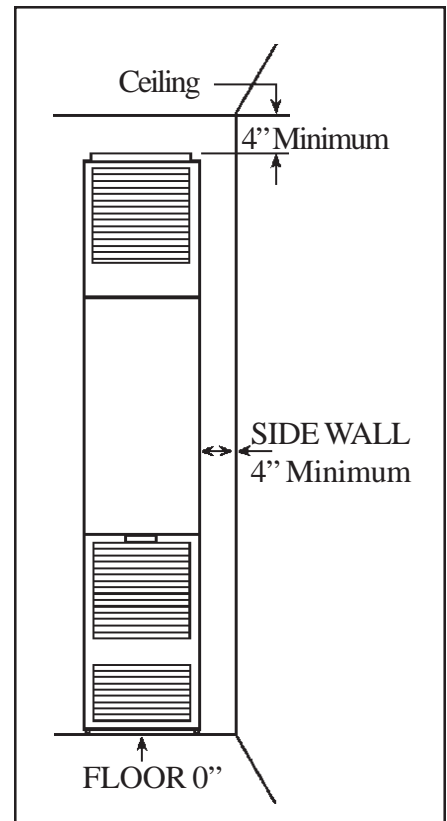

FIGURE 1
14. When installing the furnace allow adequate accessibility clearances for servicing and proper operation. (See Figure 1 – Page 5).
1. The minimum clearance to a side wall is 4". (See Fig. 1). **NOTE:** The unit may be recessed and rest directly against side studs and the inside surface of the rear wall.
2. The minimum clearance to the ceiling is 4". (See Figure 1).
3. The minimum clearance to the floor is 0". (See Figure 1).